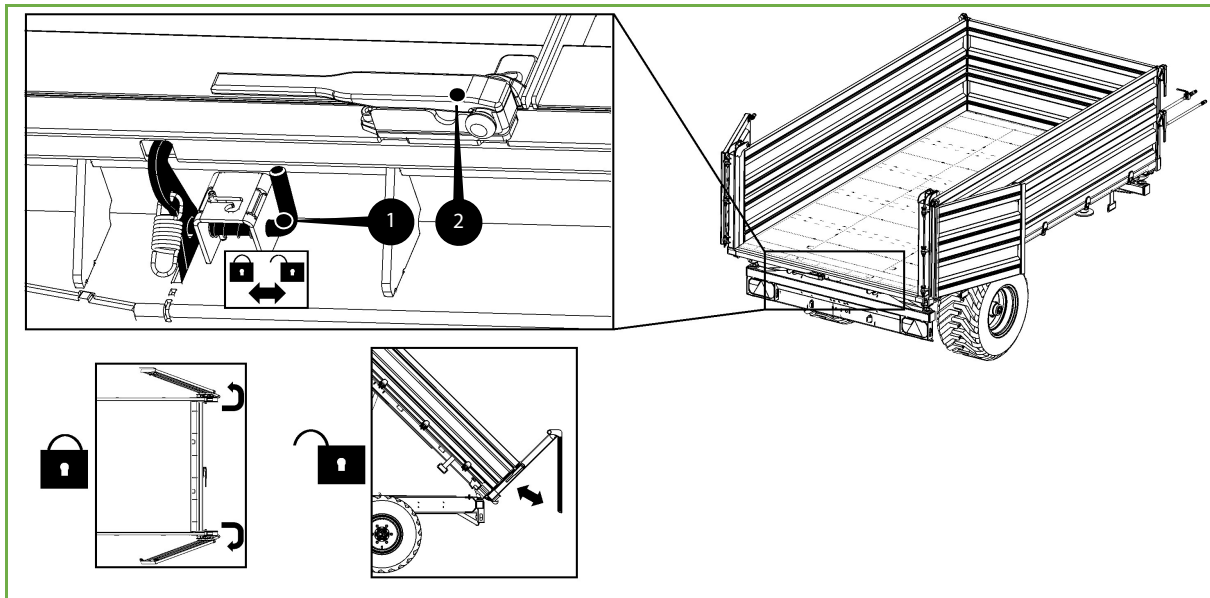

Figure 7-17: Securing the rear tailgate locking hooks - models Z030 and Z050
- Keep the lock between the folding doors [2] secured. Please refer to Figure 7-17
Check that the rear tailgate locking hooks are secured. Please refer to *Figure 7-17*.